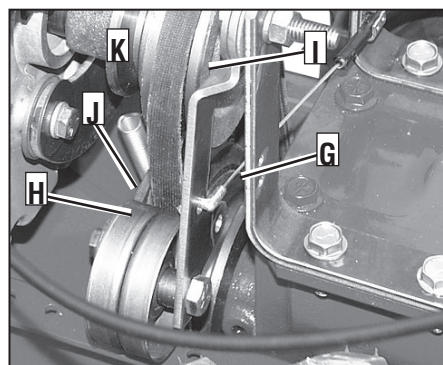

Figure 5-15: Forward clutch control assembly.
The forward clutch belt (K, Figure 5-15) engages the engine pulley (I) and the transmission pulley (J) when either Forward Clutch Control Lever is pulled up against the handlebar. This tightens the forward clutch cable (G) which causes the forward clutch idler pulley (H) to apply pressure to the forward clutch belt. This causes the pulleys to turn for Forward movement.